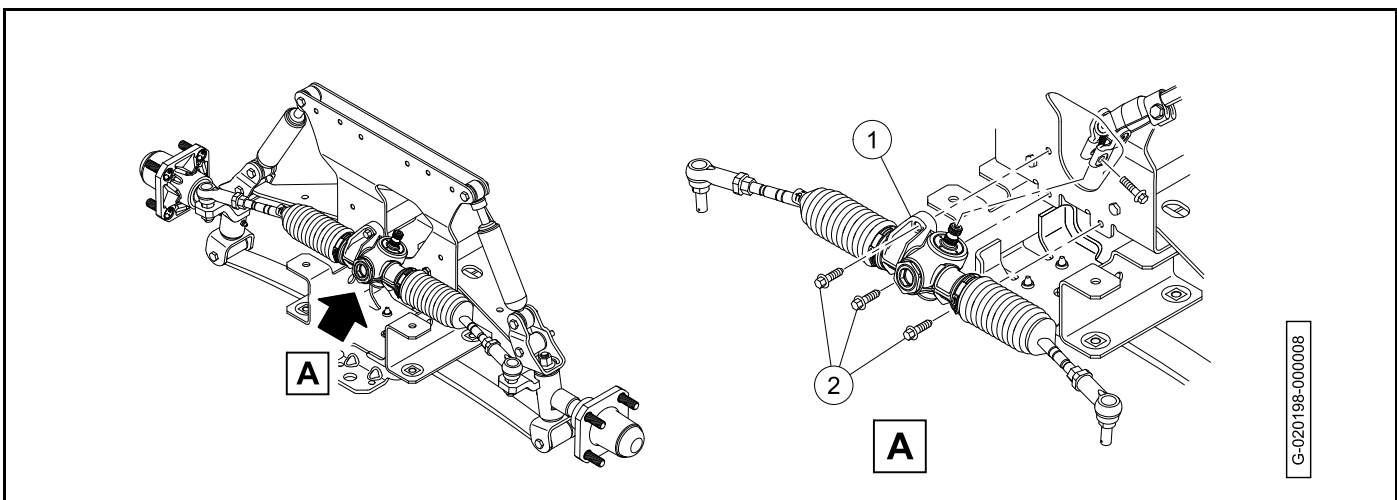

Figure 7-33
3. Move the rack and pinion (1) into position (Figure 7-33).